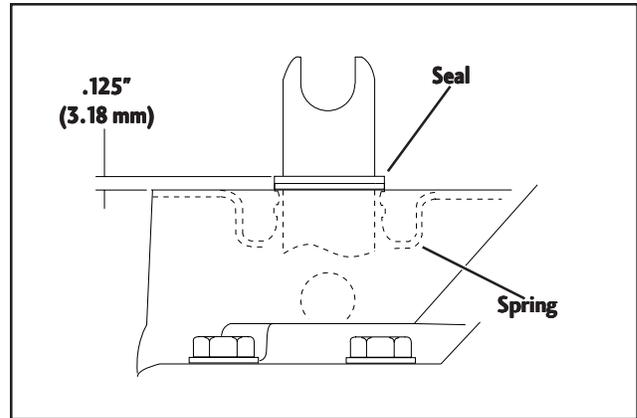

Figure 12
5. Install shift fork seal and spring. See Figure 12.